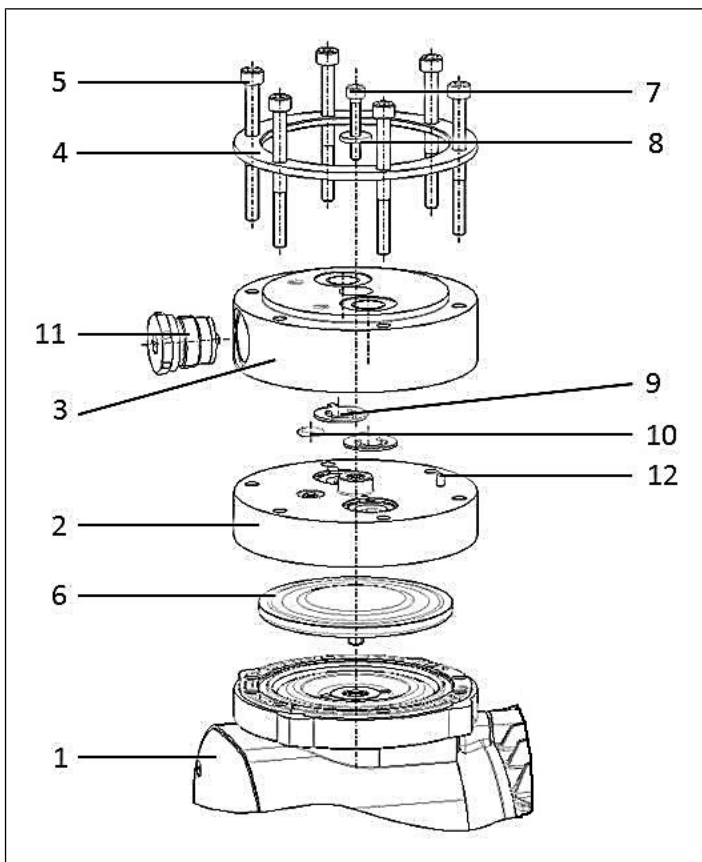

Fig.13: Pump parts N922FT.29E EX
**According to Fig. 13
i The item numbers within the following work instruction refer to Fig. 13.